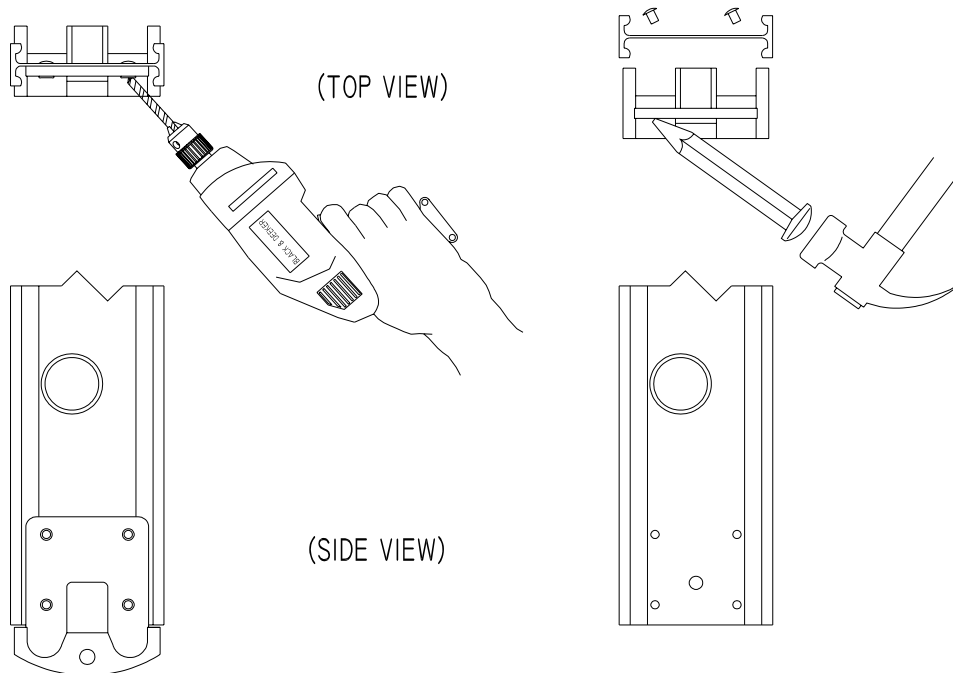

Figure 2
2. Using two (2) 9/16" wrenches, remove the existing swivel shoe by unfastening the nut and bolt which secures the shoe to the mounting bracket on the side rail. Discard existing swivel shoe, nut and bolt.
3. Using a 3/16" diameter bit, drill out four (4) rivets that attach mounting bracket to the side rail. Drill on the side opposite the rivet head. If necessary, use a hammer and punch to remove the rivets. Discard existing mounting brackets and rivets. Refer to Figure 2. File off any burrs that may have been made in the side rail while drilling out the rivets.